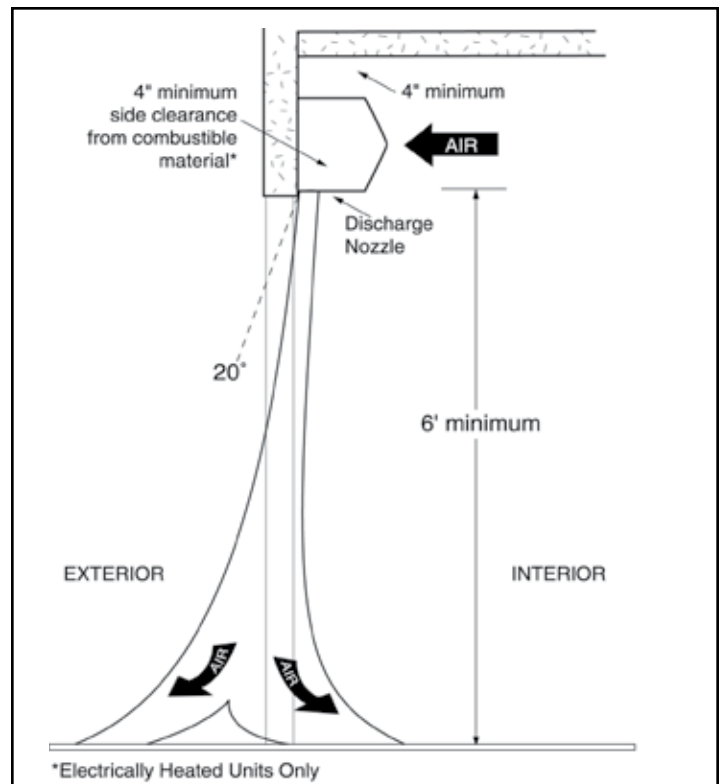

FIGURE 1 - Air Stream
A. When determining the mounting location for the unit(s), make sure that nothing interferes with the curtain of air developed when the discharge vanes are directed from 0° to 20° toward the door opening. If the air stream strikes any obstruction (the top edge of the doorway, a door opening device, etc.), the effectiveness of the unit will be greatly reduced. **See Figure 1.**